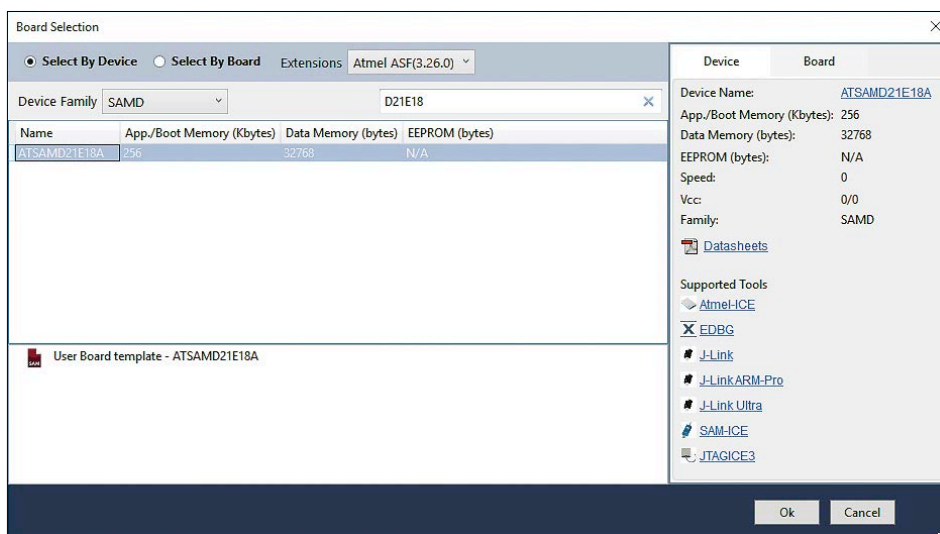

Figure 5. Selecting a non-AVR micro.
2. Select the device: The T-Board ARM uses an *ATSAMD21E18A*, so choose that. As there aren’t any Atmel development boards for this microcontroller, you must select *User Board Template* and click OK (**Figure 5**).